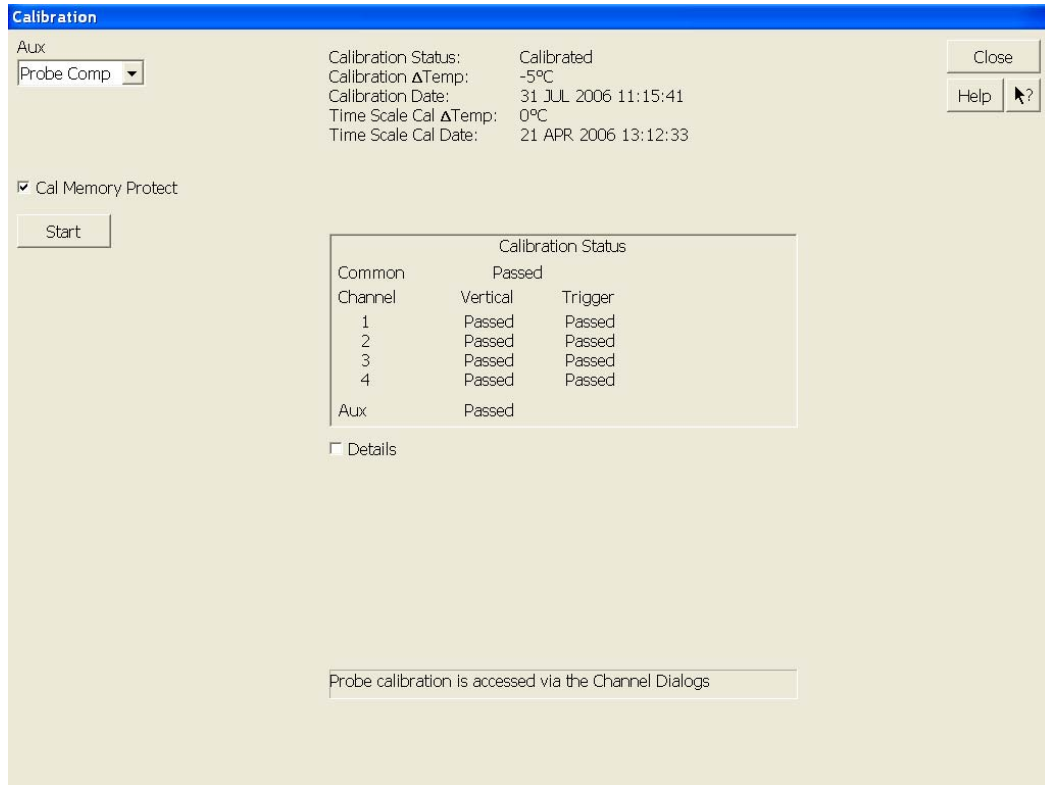

Figure 55 Oscilloscope Calibration Window
- 4 Referring to Figure 55 below, perform the following steps to start the calibration: